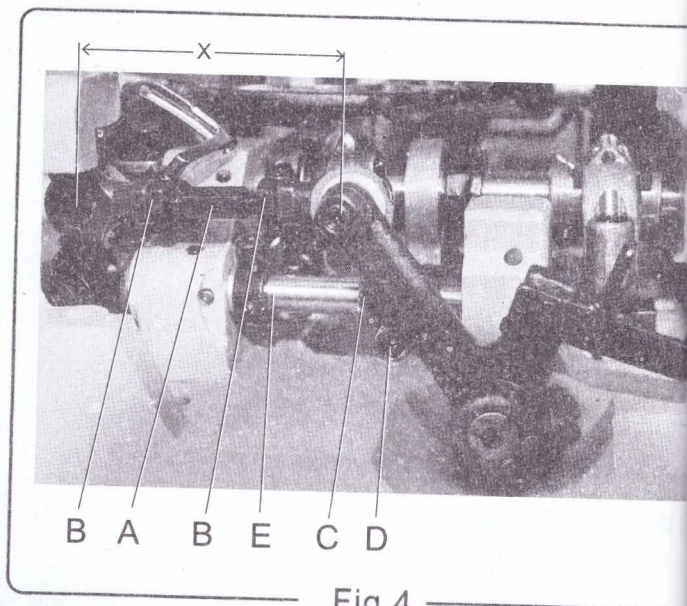

Fig.4
- (一) 首先调节连接杆(图4, A), 使两球轴承(X)中心线间距为69.8毫米($2\frac{3}{4}$ 英寸), 调节时拧松二个螺母(B), 顺旋或倒旋连接杆(A)使(X)距离符合要求后再锁紧螺母。
- (1) First set the looper connecting rod (A, Fig.4), so the distance (X, Fig.4) between the center lines of the two ball joints is 69.8mm ($2\frac{3}{4}$ in.). For adjustment, loosen the two nuts (B) and turn connecting rod (A) forward or backward as required to obtain specified dimension. Retighten nuts (B). Caution: the left nut has a left hand thread.
（三）继续转动皮带轮，使弯针（图5，A）从右向左运动时靠近机针背面的凹形处通过而不得接触，其间隙为0.08毫米~0.13毫米（0.003至0.005英寸）（图6所示）。调节时拧松弯针小偏心摇杆（图4，C）的螺钉（图4，D），按需要把弯针向前或向后摆动从而转动弯针架轴（图4，E），再拧紧螺钉（D）。
(3) Rotate the machine pulley so that the looper moves from right to left. The looper point should pass as close possible to the back of the needle without contacting 0.08-0.13mm (0.003 to 0.005 in.) clearance. For adjustment, loosen screw (D. Fig.4) in the looper eccentric fork (C) and turn rocker shaft (E) on the looper rocker with looper forward or backward as required. Retighten screw (D).